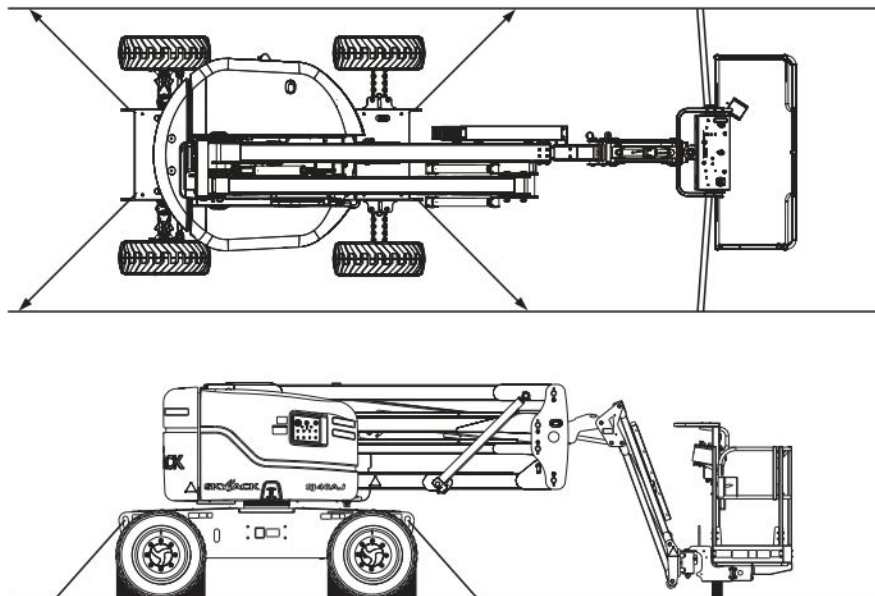

Figure 3-3. Tie-down Points
6. Anchor down MEWP to transport surface using tie-down points (refer to Figure 3-3).